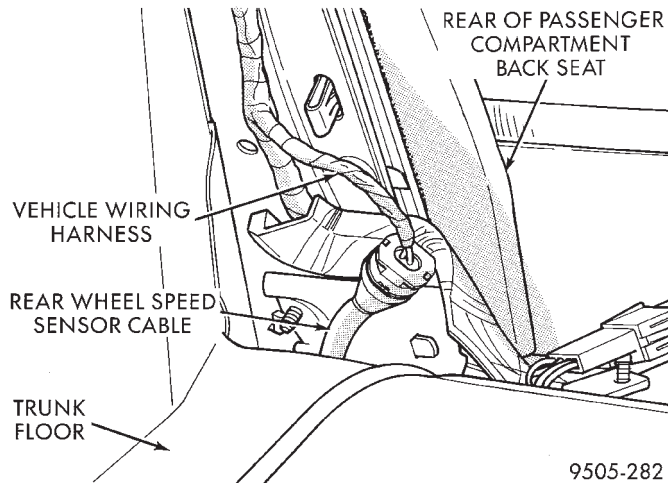
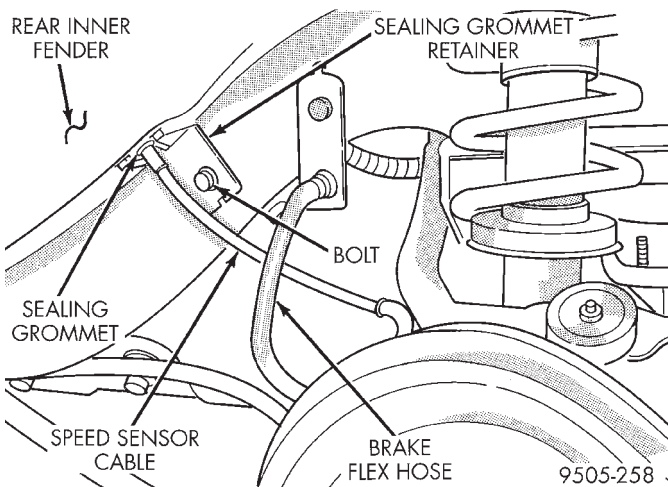

Fig. 45 Rear Speed Sensor Cable Connection To Vehicle Wiring Harness
Fig. 46 Rear Speed Sensor Cable Attachment To Body
- (1) Unplug the speed sensor cable connector from the vehicle wiring harness (Fig. 45). **Access for**
(2) Raise vehicle on jack stands or centered on a frame contact type hoist. See Hoisting in the Lubrication and Maintenance section of this manual, for the required lifting procedure to be used for this vehicle.
(3) Remove the rear tire and wheel assembly from the vehicle.
(4) Remove speed sensor cable sealing grommet retainer (Fig. 46) from the rear frame rail of the vehicle. Then remove speed sensor cable sealing grommet and cable from hole in body of vehicle.
(4) Install connector end of speed sensor cable through hole in inner fender and into trunk of vehicle.
(5) Install speed control sealing grommet into hole in inner fender. Install the sealing grommet retainer and attaching bolt (Fig. 46) on rear frame rail. Securely tighten retainer attaching bolt.
(6) Install the tire and wheel assembly on vehicle.
(7) Lower vehicle.
(8) Plug speed sensor cable connector into vehicle wiring harness (Fig. 45). **Install foam sleeve back over the speed sensor cable to vehicle wiring harness connection to prevent connector from rattling against body of vehicle.**
(9) Road test vehicle to ensure proper operation of the base and ABS systems.